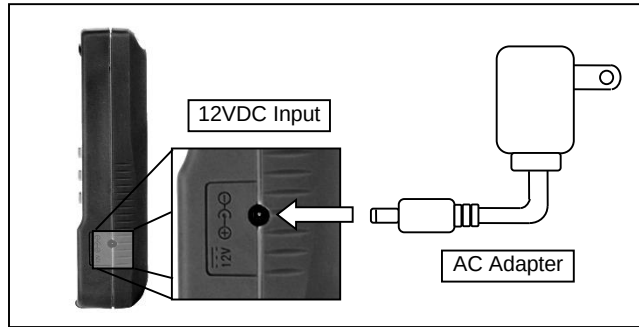

Figure 6 - Connecting AC Adapter to Meter
2. Connect the AC adapter connector into the right side panel of the instrument. See Figure 6 below.